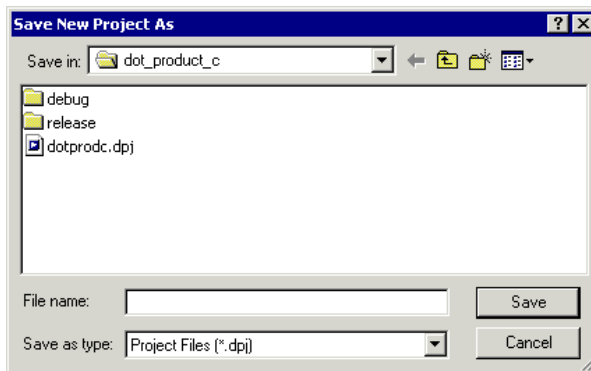

Figure 3-10. Save New Project As Dialog Box
2. From the Project menu, choose New to open the Save New Project As dialog box, shown in Figure 3-10.